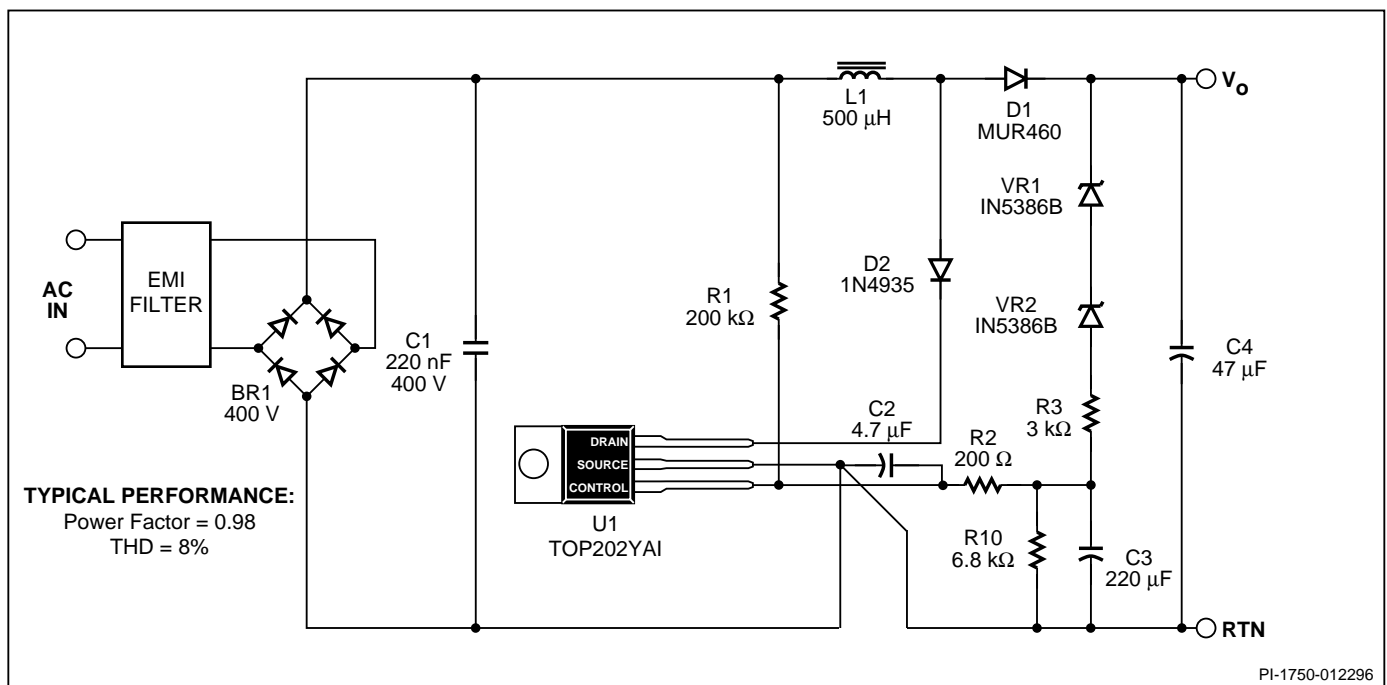

Figure 10. Schematic Diagram of a 65 W 230 VAC Input Boost Power Factor Correction Circuit Utilizing the TOP202.
*TOPSwitch* can also be used as a fixed frequency, discontinuous mode boost pre-regulator to improve Power Factor and reduce Total Harmonic Distortion (THD) for applications such as power supplies and electronic ballasts. The circuit shown in Figure 10 operates from 230 VAC and delivers 65 W at 410 VDC with typical Power Factor over 0.98 and THD of 8%. Bridge Rectifier BR1 full wave rectifies the AC input voltage. L1, D1, C4, and *TOPSwitch* make up the boost power stage. D2 prevents reverse current through the *TOPSwitch* body diode due to ringing voltages generated